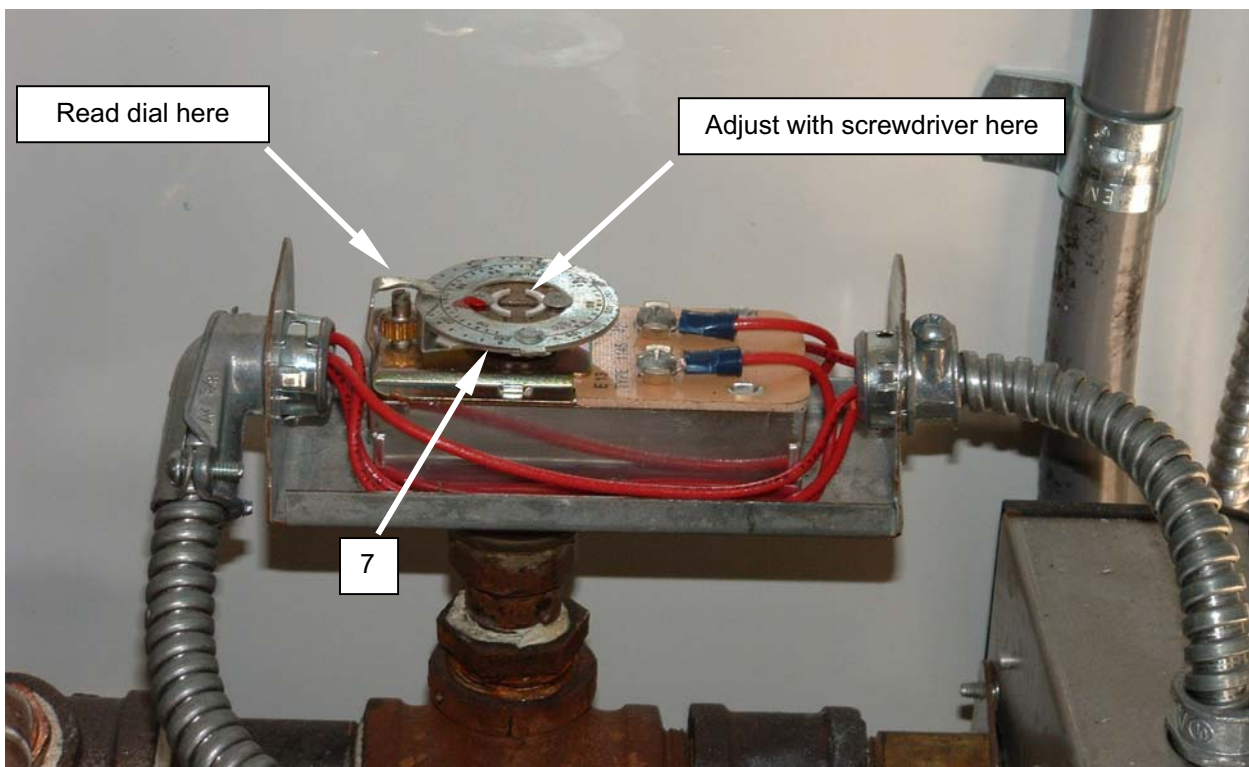

Figure 9. Adjust the Thermostat.
2. Loosen the screw retaining the thermostat cover (**Figure 9, Item 5**), and remove the cover.
3. Ensure the dial (**Figure 9, Item 7**) has been set for approximately 205 °F.
4. Install the thermostat cover (**Figure 9, Item 5**), and retain with screw.